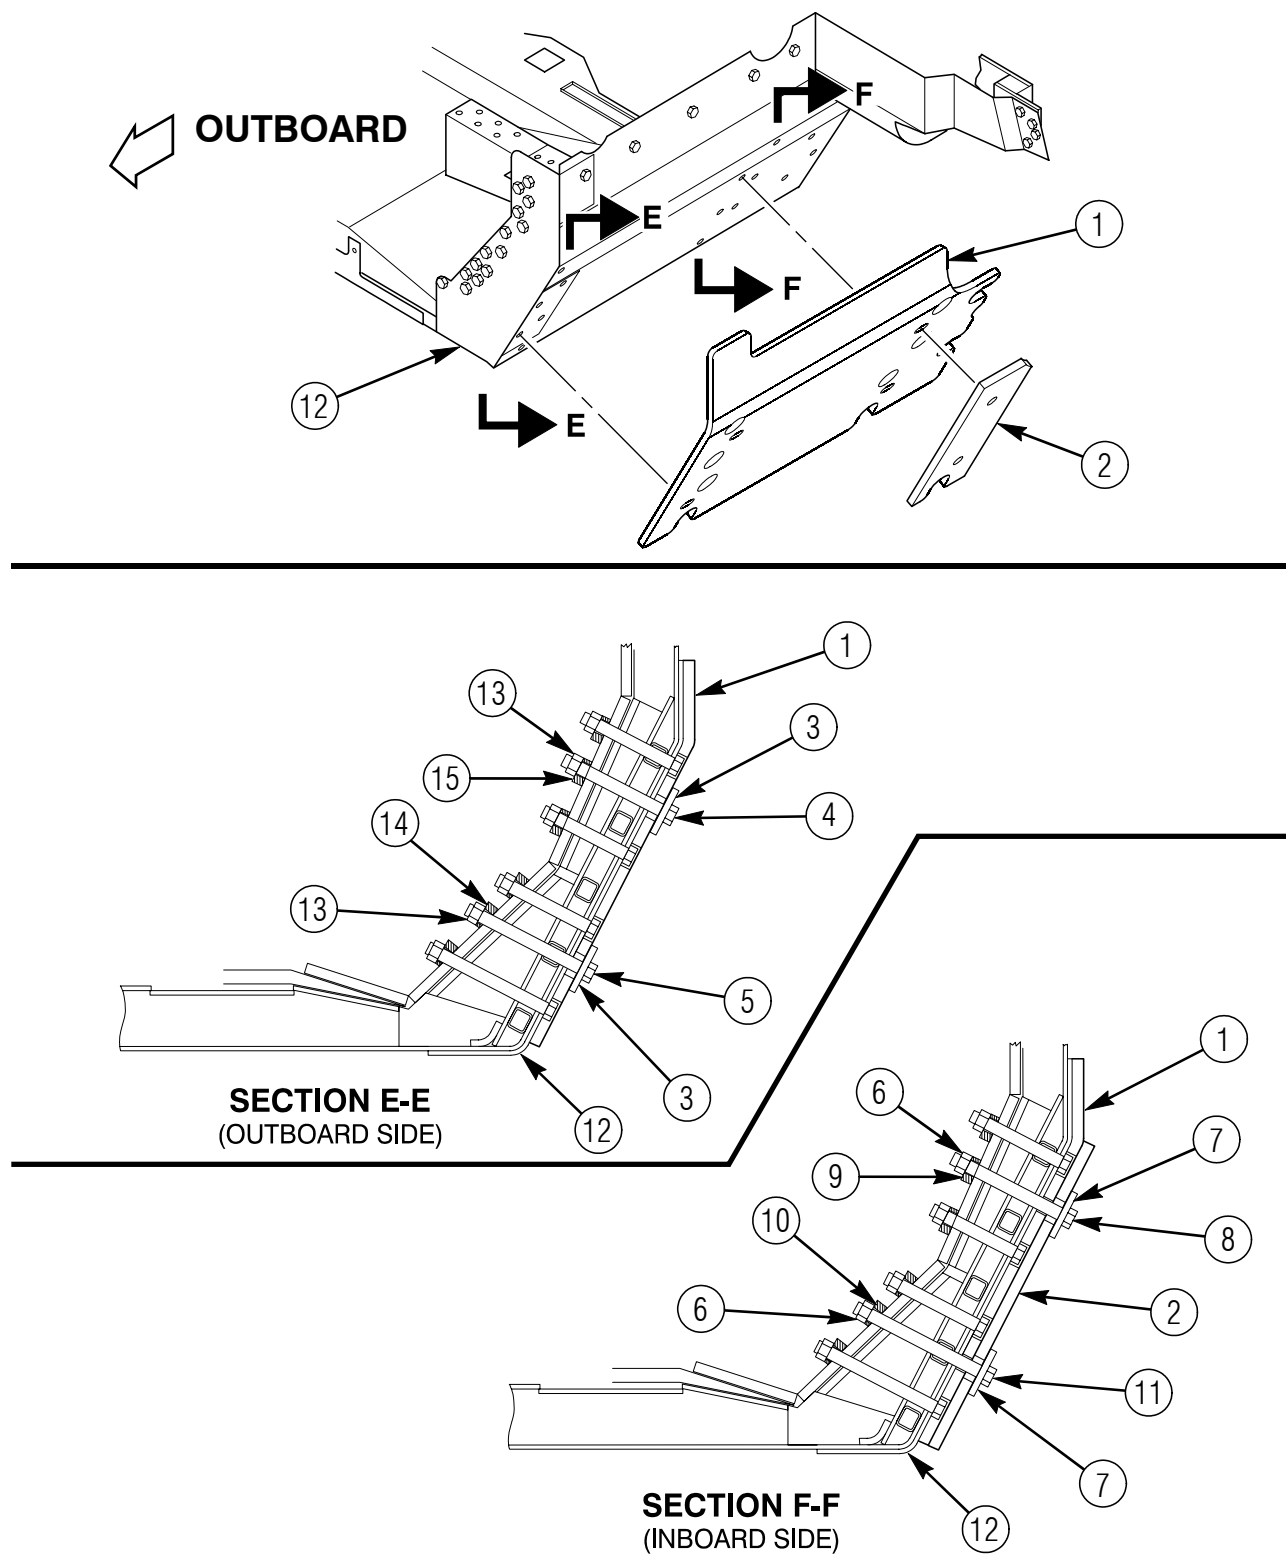

Figure 5.
- a. Place 6434241-01M1 or 6434241-200M1 right front underbody wheelwell armor (1) on front wheelwell section of right front underbody (12) and install one 4397000-074 capscrew (4), one 4397000-076 capscrew (5), two 6434369-01M1 or 6434369-200M1 or 6434369-400M1 ballistic washers (3), one existing upper kick panel wedge spacer (15), one existing lower kick panel wedge spacer (14), and two 4397064-005 locknuts (13) through outboard side of armor (1) as shown in figure 5. Do not tighten locknuts (13) at this time.
- b. Install 6434368-01M1 or 6434368-200M1 right front underbody wheelwell cover (2) with one 4397000-076 capscrew (8), one 4397000-078 capscrew (11), two 6434369-01M1 or 6434369-200M1 or 6434369-400M1 ballistic washers (7), one existing upper kick panel wedge spacer (9), one existing lower kick panel wedge spacer (10), and two 4397064-005 locknuts (6) as shown in figure 5. Tighten two locknuts (6) and two locknuts (13) to 37 lb-ft (50.2 N·m).